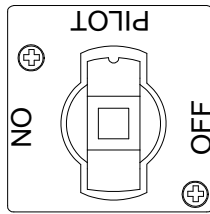

Figure 1
1. Ensure power to the unit is OFF, then turn the gas valve knob to the OFF position. Wait at least 5 minutes, then rotate the gas valve knob to the PILOT position (see Figure 1).